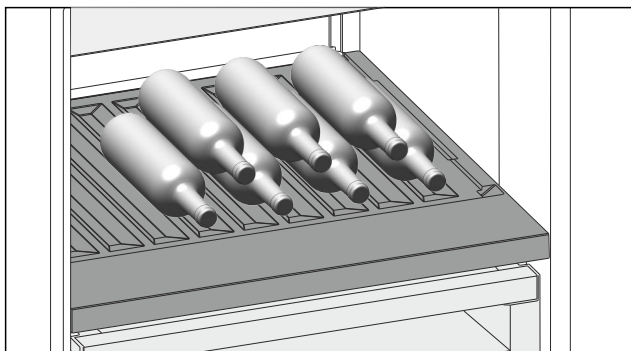

Fig. 181 Example illustration
- Place bottles in the back row with their bases against the back wall. (see Fig. 181)